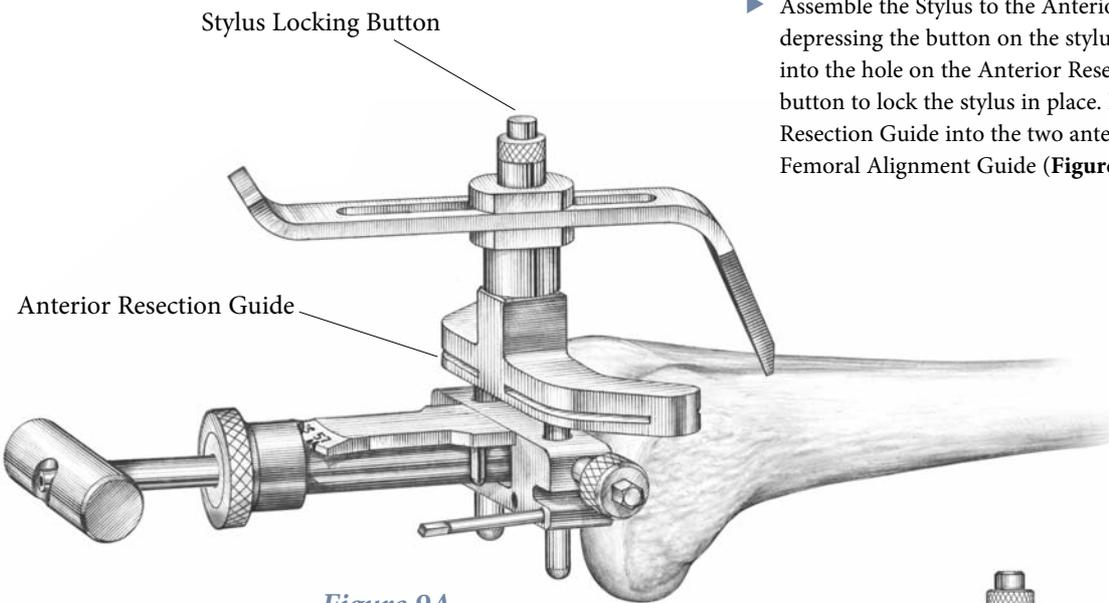

Figure 9A
- ▶ Assemble the Stylus to the Anterior Resection Guide by depressing the button on the stylus and fully seating it into the hole on the Anterior Resection Guide. Release the button to lock the stylus in place. Insert the Anterior Resection Guide into the two anterior holes on the Femoral Alignment Guide (Figures 9A and 9B).